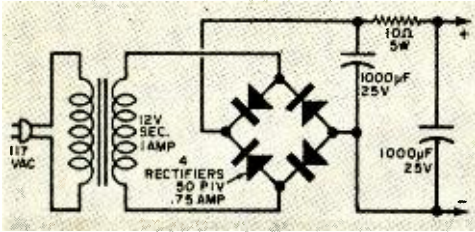

Fig. 7. This simple power supply will enable the builder to operate his Mini-Verb off the 117-volt a.c. lines. All components are easily purchased.
**"Stationary" Applications.** To use the "Mini-Verb" with your high fidelity system (or public address equipment), you will need a 12-volt power supply that can deliver 500 mA with good regulation and low hum. A typical circuit is shown in Fig. 7.